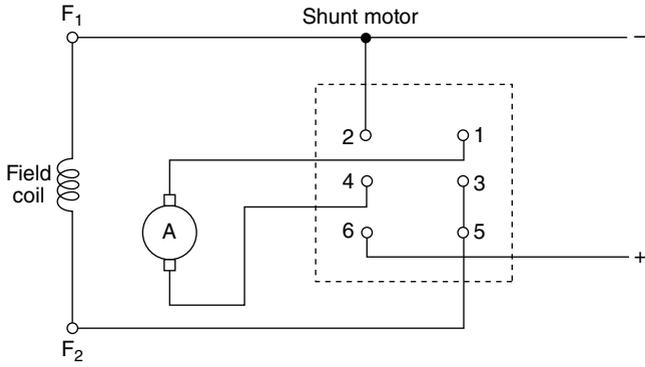

Fig. P-3
3. Using Fig. P-3, draw lines to complete the circuit between the switch terminals to cause the shunt motor to run in the forward direction.